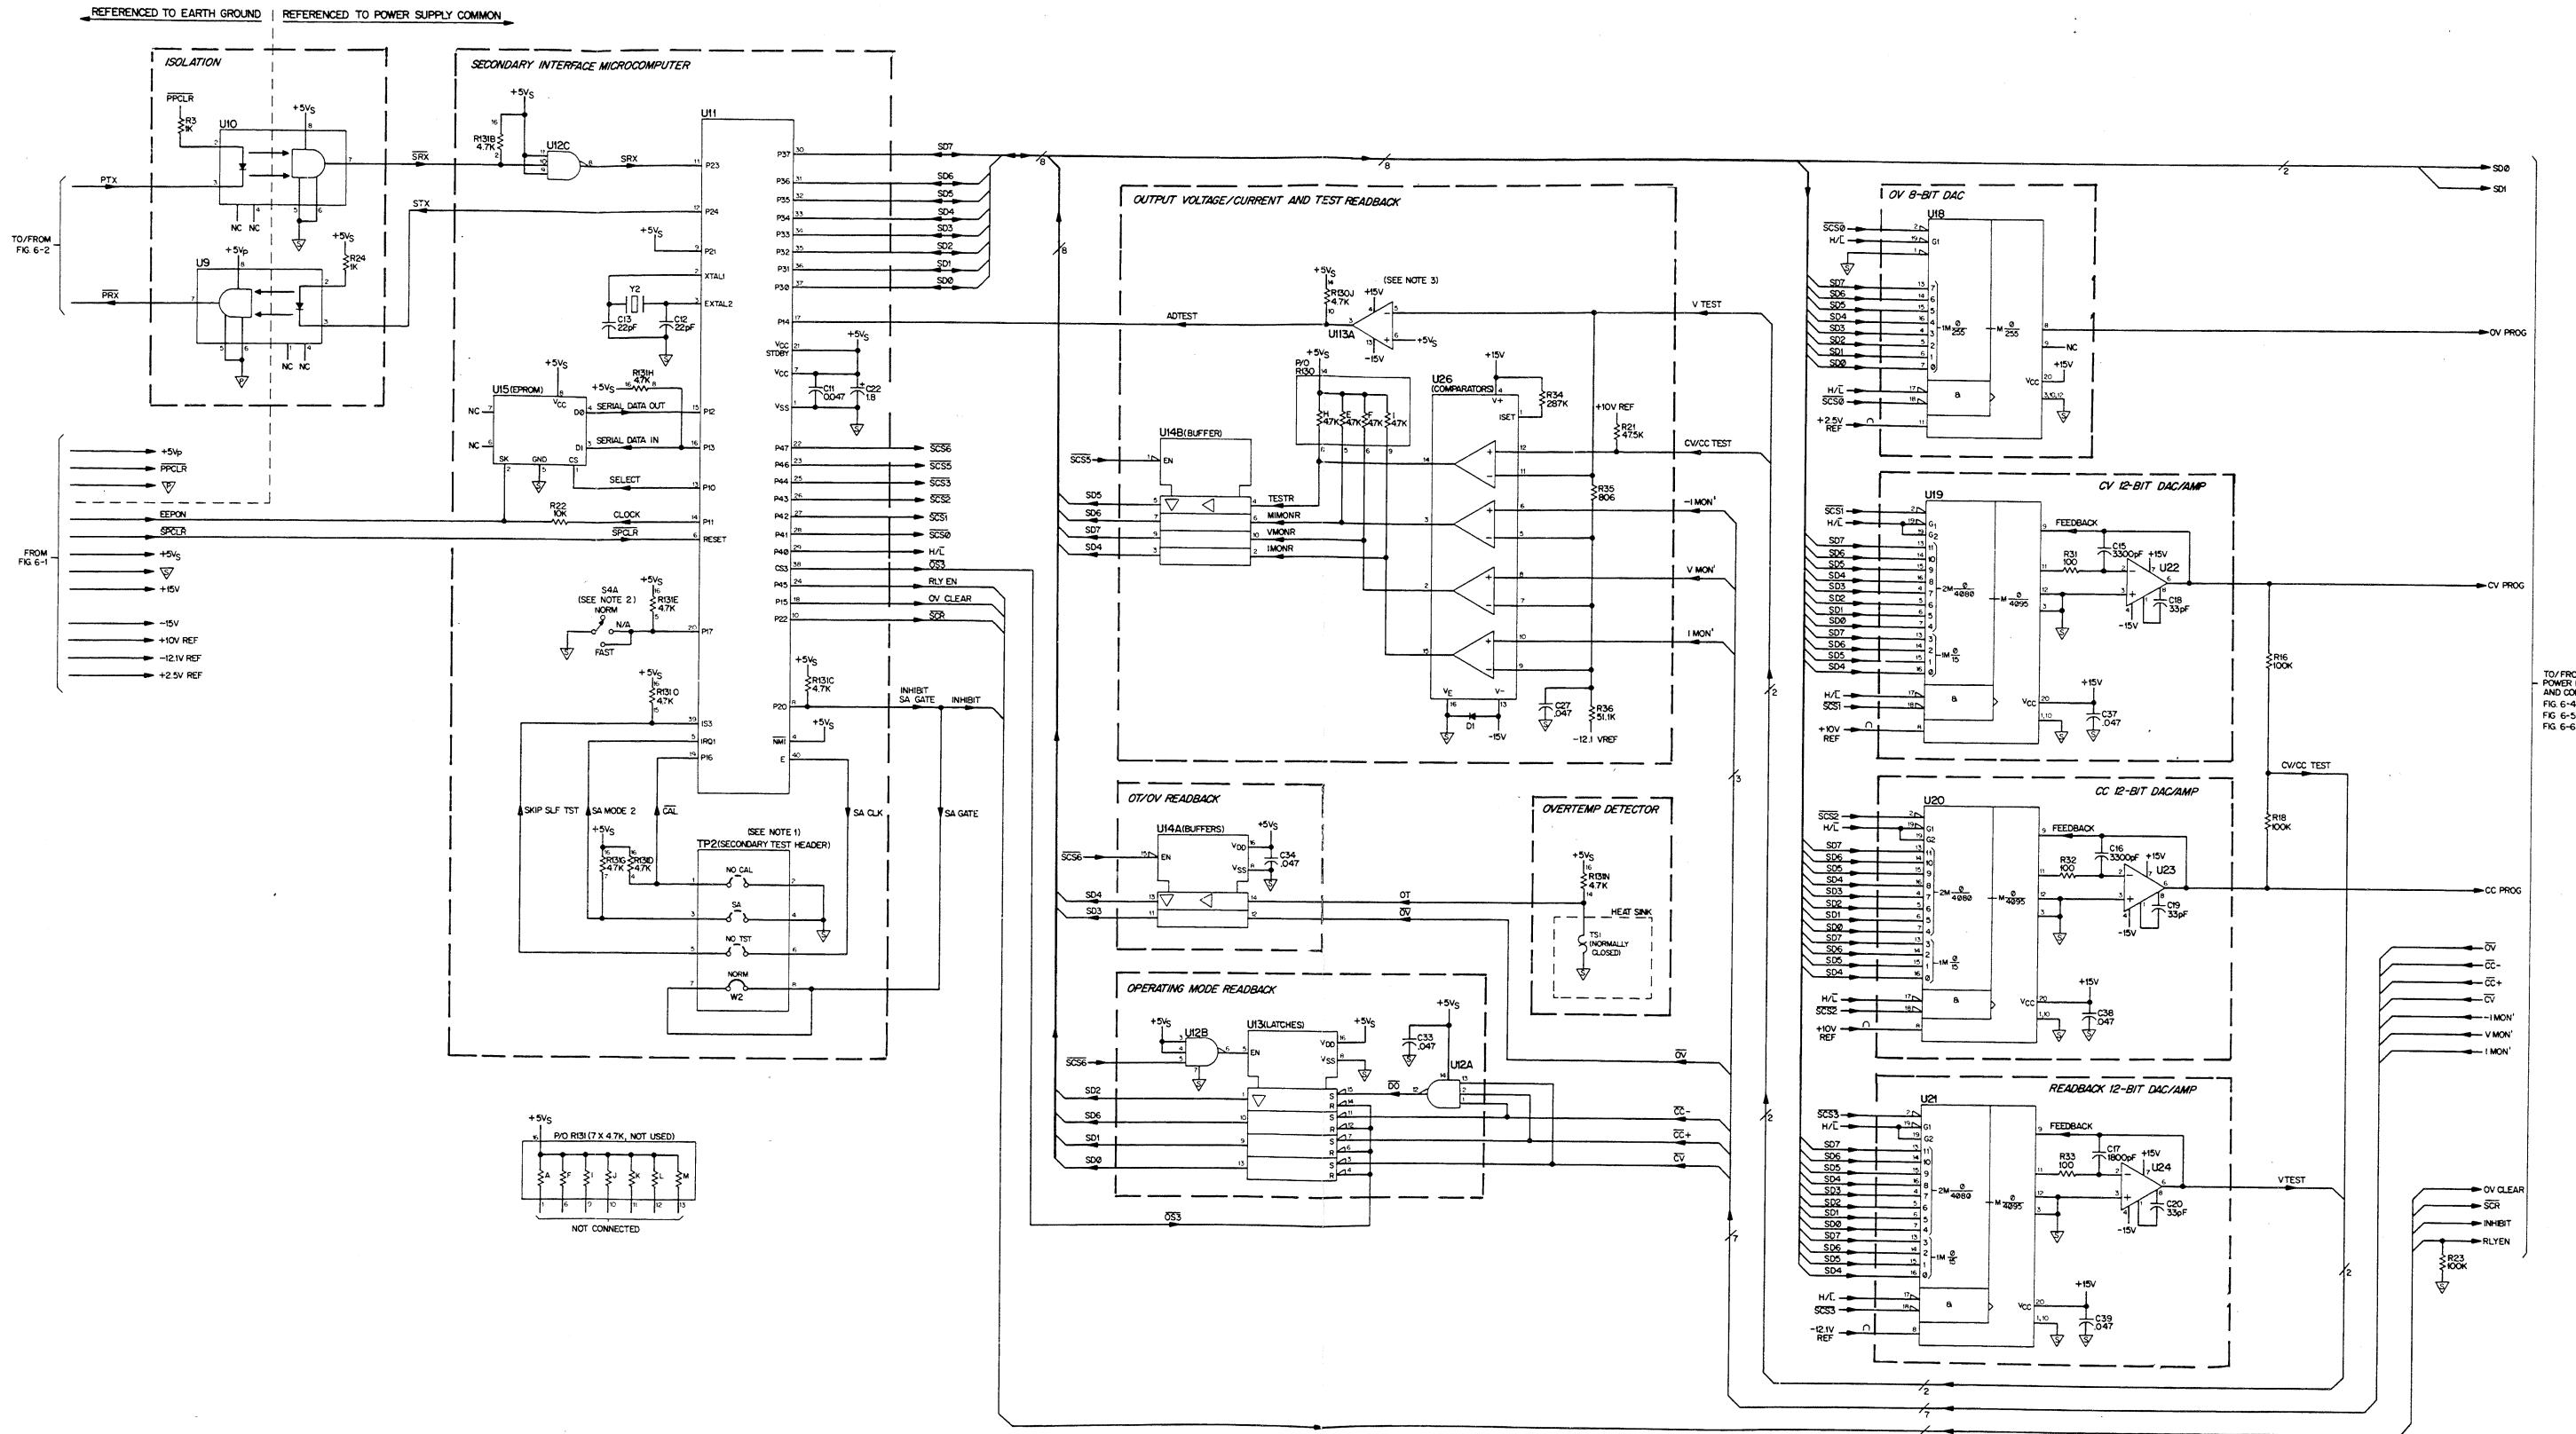

Figure 6-3. HP Models 6632A-6634A Secondary Interface Circuits, Schematic Diagram
TO FIG. 6-3
Schematic Notes for Figure 6-3
1. OPERATING MODE switch S4 selects either the NORMAL or FAST mode (see paragraph 4-4 in the Operating Manual). Switch S4 is actually a three position switch: NORMAL, N/A, and FAST. The FAST and N/A positions are connected together and select the same operating mode (FAST). For functional clarity, section S4A, shown in the voltage gain stage on this schematic, is also shown in the secondary interface microcomputer circuit of Figure 6-3.
1. OPERATING mode switch S4 selects either the NORMAL or FAST mode (see paragraph 4-4 in the Operating Manual). Switch S4 is actually a three position switch: NORMAL, N/A, and FAST. The FAST and N/A positions are connected together and select the same operating mode (FAST). For functional clarity, section S4A, shown in the voltage gain stage on this schematic, is also shown in the secondary interface microcomputer circuit of Figure 6-3.